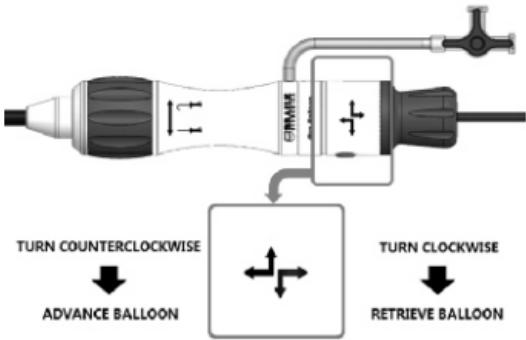

Figure 20:
- G.9. Check the integrity of the fine adjustment system: completely rotate the fine adjustment wheel located at the base of the handle, observing the axial displacement of the inflation balloon, and then return the fine adjustment wheel to its initial position. Observe the markings near the fine adjustment wheel to check the correct orientation to rotate, as shown in Figure 20.